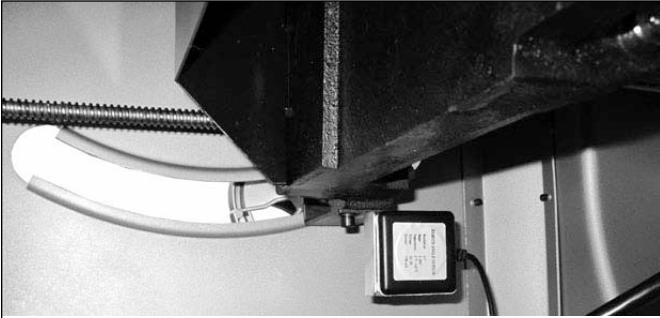

Figure 5
- Attach the digital reader assembly to the main trunnion with bolt removed in step 4. See Figure 5.